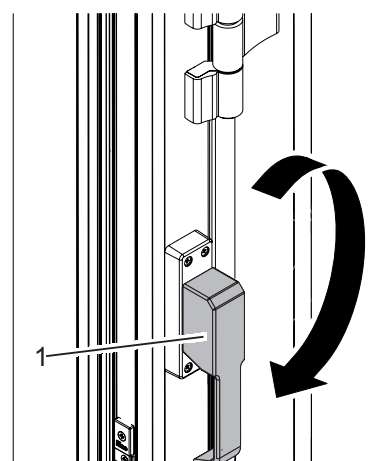

Fig. 24: Switching to the single action door mode
2. Move the door lock bar (Fig. 24/1) in the direction of the arrow into the lower end position.